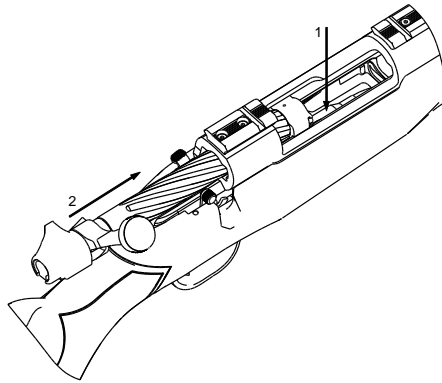

Fig. 14
If you wish to load the magazine but close the bolt on an empty chamber, press up to three (3) cartridges for magnum calibers or five (5) for standard non-magnum calibers, down into the magazine, one at a time. BEFORE closing the bolt, depress the top cartridge in the magazine with your thumb while slowly sliding the bolt forward so that it overrides the top cartridge in the magazine (Fig. 14). Keeping the muzzle pointed in a safe direction, remove your thumb and finish closing the bolt, watching to make sure that no cartridge is pushed into the chamber.